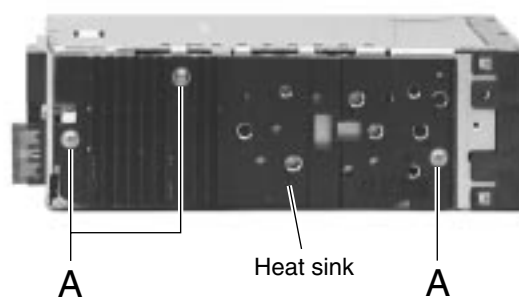

Fig.4
■ Removing the heat sink (See Fig.4)